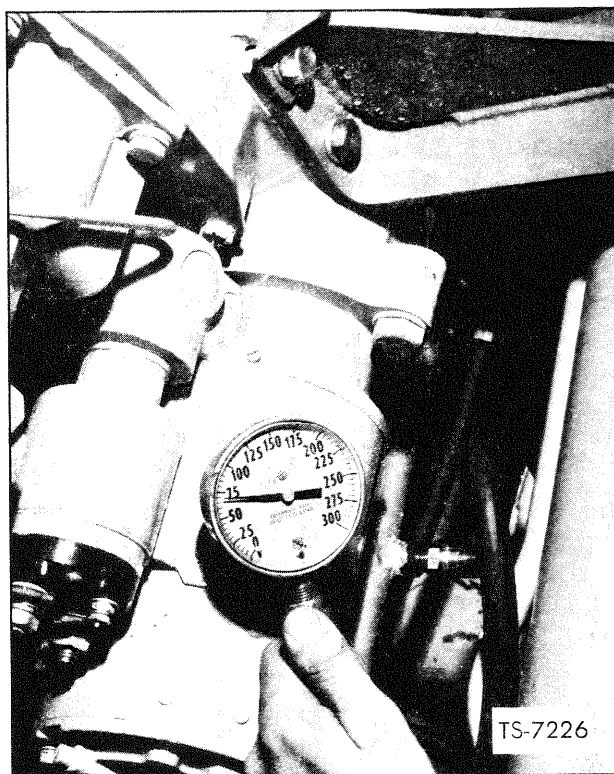

Fig. 24 Check Pressure—Oil Cooler IN
1. Install a tachometer on the engine. Install gauges at the pressure ports on the inlet and outlet piping to the oil cooler as shown in Figs. 24 and 25.